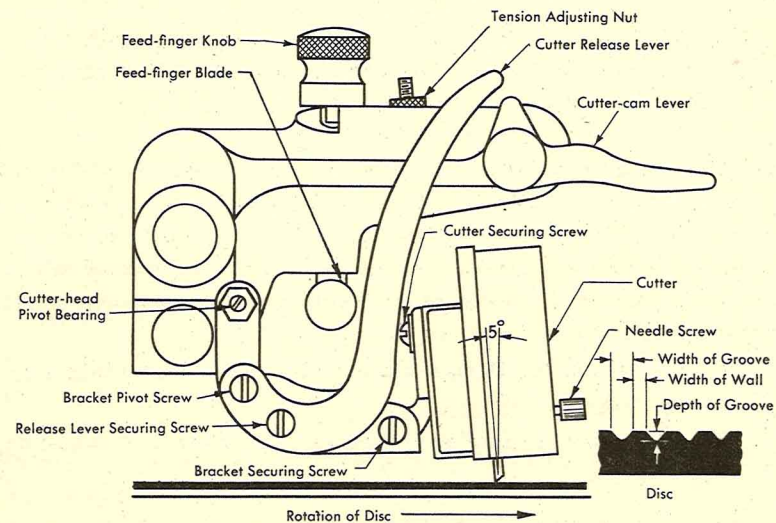

Figure 5. Cutter-head and carriage details.
(e) Cutter head pivot bearing (fig. 5).
## 3. CUTTER HEAD AND CARRIAGE (figs. 5 and 8).
The cutter head is mounted on a U-shaped bracket and secured by the cutter securing screws; it is pivoted to the overhead carriage by two pivots (cutter head pivot, bearing) shown in figure 5. The bracket has a cutter-release lever (20) which engages with the cutter-cam lever (19). A dashpot (14) which serves as a vertical damping device is attached to the cutter-head bracket and secured in place by the dashpot mounting nut (13). The function of the dashpot is to damp out undesirable vertical vibrations of the cutter head. Depth of cut is controlled by the tension spring (29) which suspends the cutter-head bracket. Adjustment of the spring is made by the tension adjusting nut (28). The cutter head employs a resonance-damped moving-iron balanced armature.